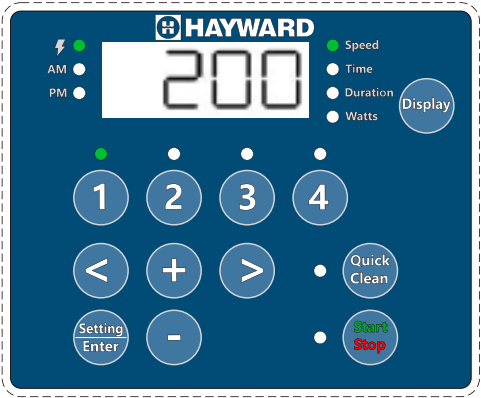

Figure 5
6. Press “1”. SPEED 1 duration will display. The “Duration” parameter LED will begin to blink. **See Figure 5.**